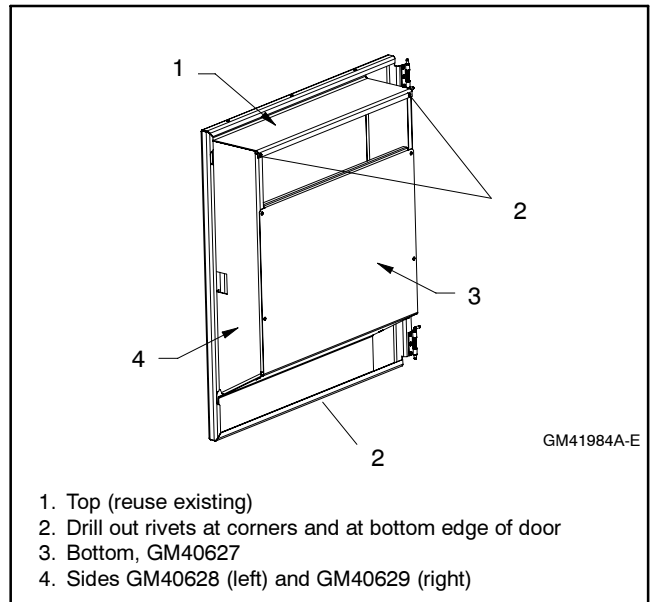

Figure 3 Battery Door Duct
5. Drill out the rivets located at the top corners of the duct and at the bottom edge of the door. See Figure 3. The top panel of the duct will be reused.
8. Assemble the right side (GM40629), left side (GM40628), and bottom (GM40627) duct panels using 8 rivets, X-781-19. See Figure 3.